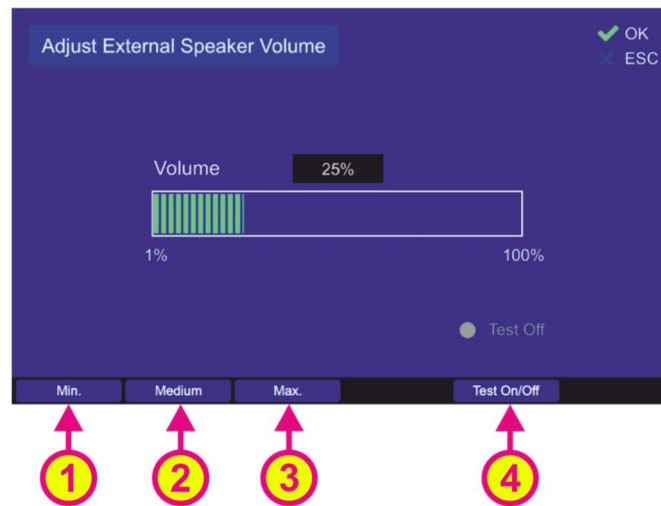

Figure 185 "Adjust External Speaker Volume Dialog"
- Use hotkey "Min." (s. Figure 185, position 1), "Medium" (Figure 185, position 2) and "Max." (Figure 185, position 3) in order to set an appropriate volume.
- Use hotkey "Test On/Off" (Figure 185, position 4) in order to test volume.